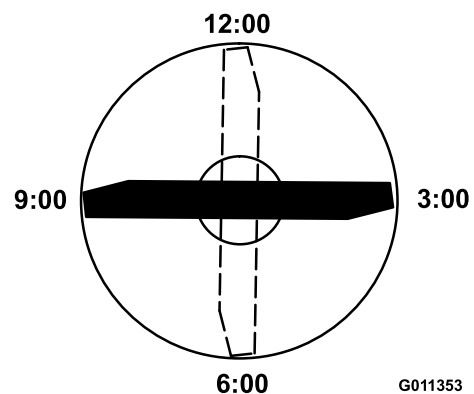

Figure 121
4. Position the cutting edge of the marked end of the blade at 12 o'clock (straight ahead in the direction of mowing) (Figure 121) and measure height from table to cutting edge of blade.
- Rotate the marked end of the blade to the 3 and 9 o'clock positions (Figure 121) and measure the heights.